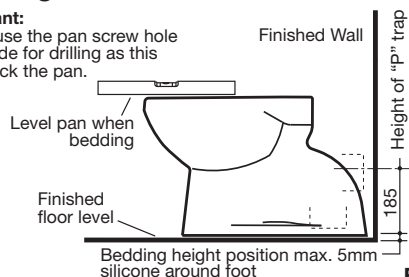

Fig. 4
- 1- Position pan onto pan connector and mark location of pan fixing holes on the floor, as detailed in Fig 4.
- 5- Connect pan to pan connector and fix to the floor with suitable corrosion resistant screws. The acetic cured silicone sealant will bed the pan to the floor. Remove any excess silicone, as detailed in Fig 4.